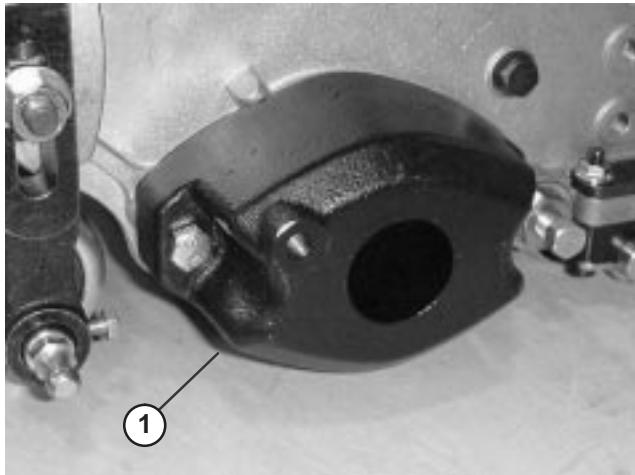

Figure 5
1. Prop (not provided)	2. Bedknife adjusting screw nut (2)
A. Remove the 2 capscrews securing the counter weight to the left end of the cutting unit. Remove the counter weight (Fig. 5).
E. Apply grease to the inside diameter of the drive coupler. Install the drive coupler to the left end of the cutting unit reel tube with a snap ring (Fig. 5).